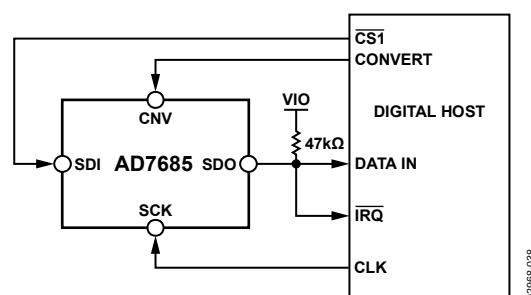
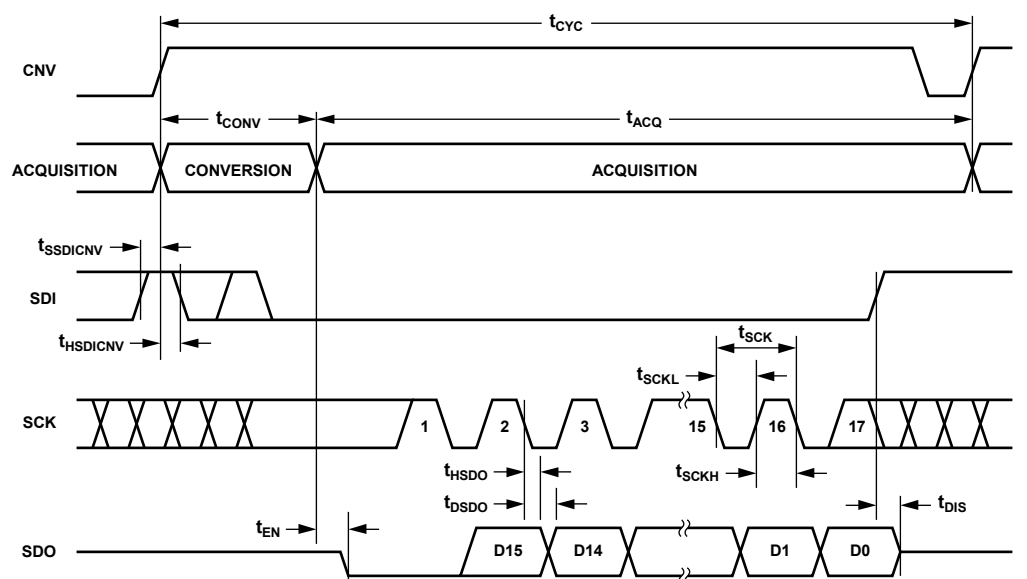

Figure 40.  $\overline{CS}$  Mode 4-Wire with BUSY Indicator Connection Diagram
Figure 41.  $\overline{CS}$  Mode 4-Wire with BUSY Indicator Serial Interface Timing
- In the  $\overline{\text{CS}}$  mode, if CNV or SDI is low when the ADC conversion ends (see Figure 37 and Figure 41).
The connection diagram is shown in Figure 40, and the corresponding timing is given in Figure 41.